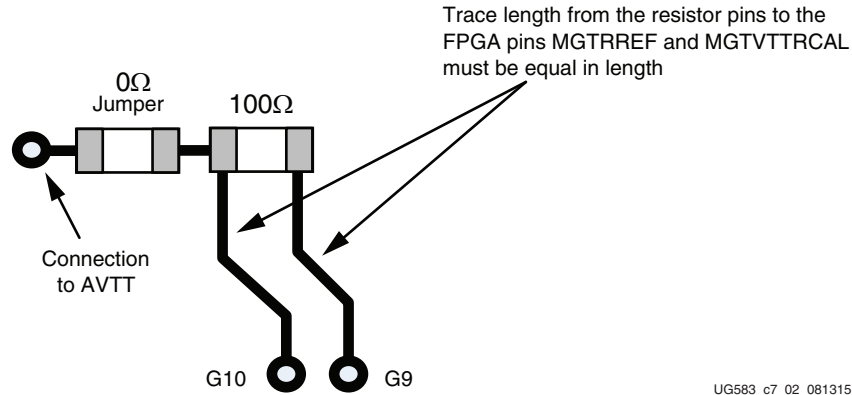

Figure 6-2: Schematic for Reserving Future RCAL and RREF Pins for F1924
- Two ground pins (G9 and G10) in the UltraScale KU085/115 F1924 device later give way to becoming RREF (G9) and RCAL (G10) pins in the UltraScale+ VU11P F1924 device. The recommended way to design for this case would be by utilizing the schematic shown in Figure 6-2 and Table 6-5. When using the KU085/115 F1924, the G9 and G10 pins are grounded, and the resistors can be left unpopulated. When the RCAL and RREF pins are present when using the VU11P, both resistors should be populated.